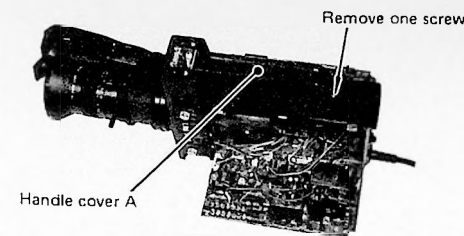

Fig. 7-8
- Remove the one screw on the handle cover A and remove the handle cover A. (Fig. 7-8)